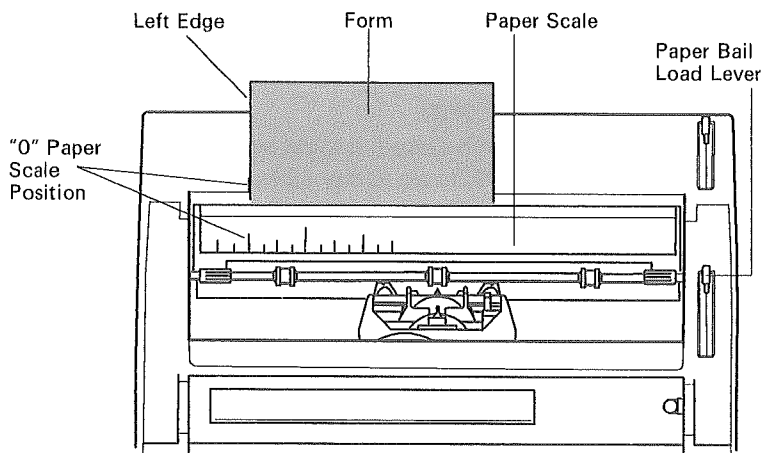

Figure 4-1.
1. Place the left edge of the form in the typewriter at the **0** paper scale position. (See Figure 4-1.)